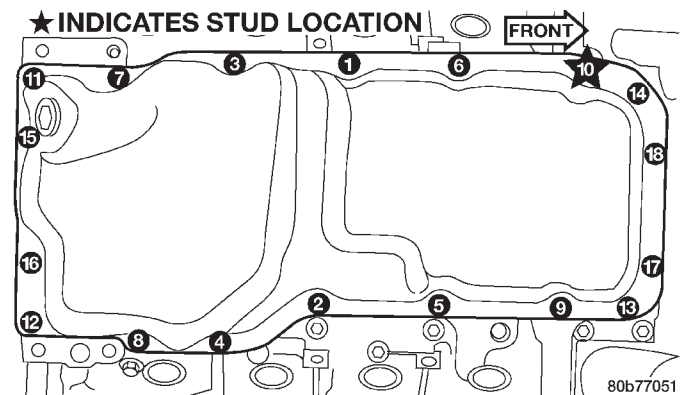

Fig. 103 Oil Pan Tightening Sequence
- (8) Measure crankshaft end play. Refer to Crankshaft Main Bearings in this section for procedure.
- (9) Install the connecting rods and measure side clearance. Refer to Connecting Rod Bearings in this section for procedure.
- (10) Position the oil pan gasket/windage tray, using a new o-ring, install the oil pickup tube. Torque the bolt to 28N·m (20 ft. lbs.) torque the nuts to 28N·m (20 ft. lbs.).
- (11) Install the oil pan. Torque the retaining bolts to 15 N·m (11 ft. lbs.) in the sequence shown (Fig. 103).
- (12) Install the engine.